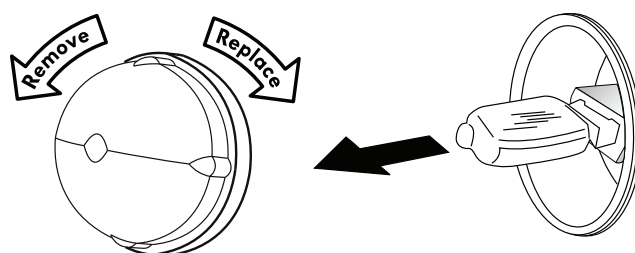

Figure 47: Replacing the oven Halogen light
2. Remove interior oven light shield by turning a quarter turn counter-clockwise (Figure 47).